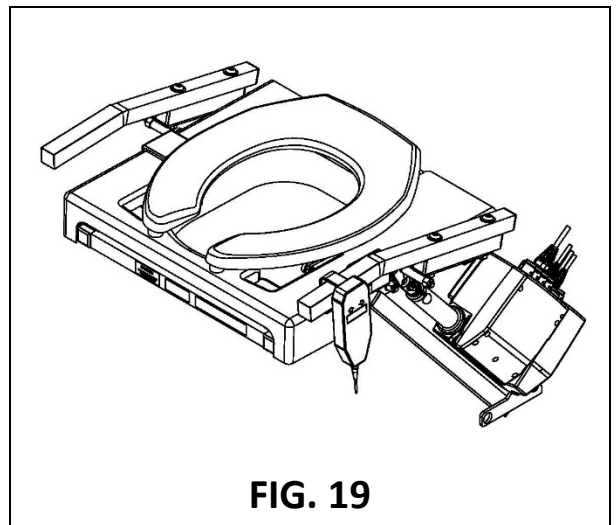

FIG. 19
- 8.6 TILT shown lowered with plastic shield in place (FIG. 19).